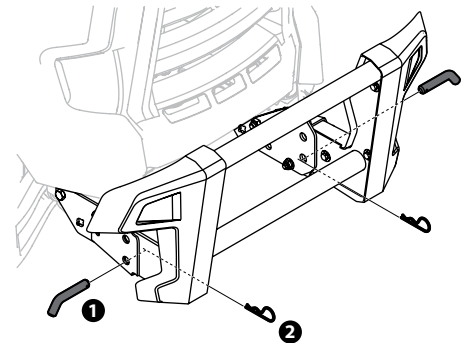

Figure 2-18
4. Install the pins on the right and left side of brush guard and then secure with two cotter pins found in the hardware pack. See Figure 2-18.